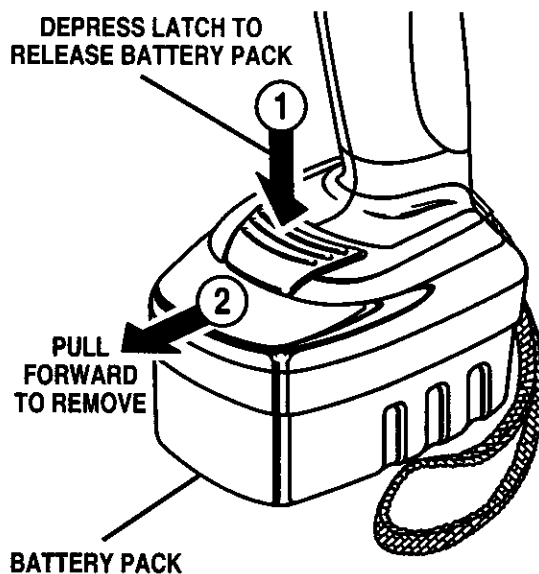

Fig. 6
- Align raised ribs on battery pack with grooves on bottom of drill, then attach battery pack to drill as shown in Figure 6.
See Figure 6.